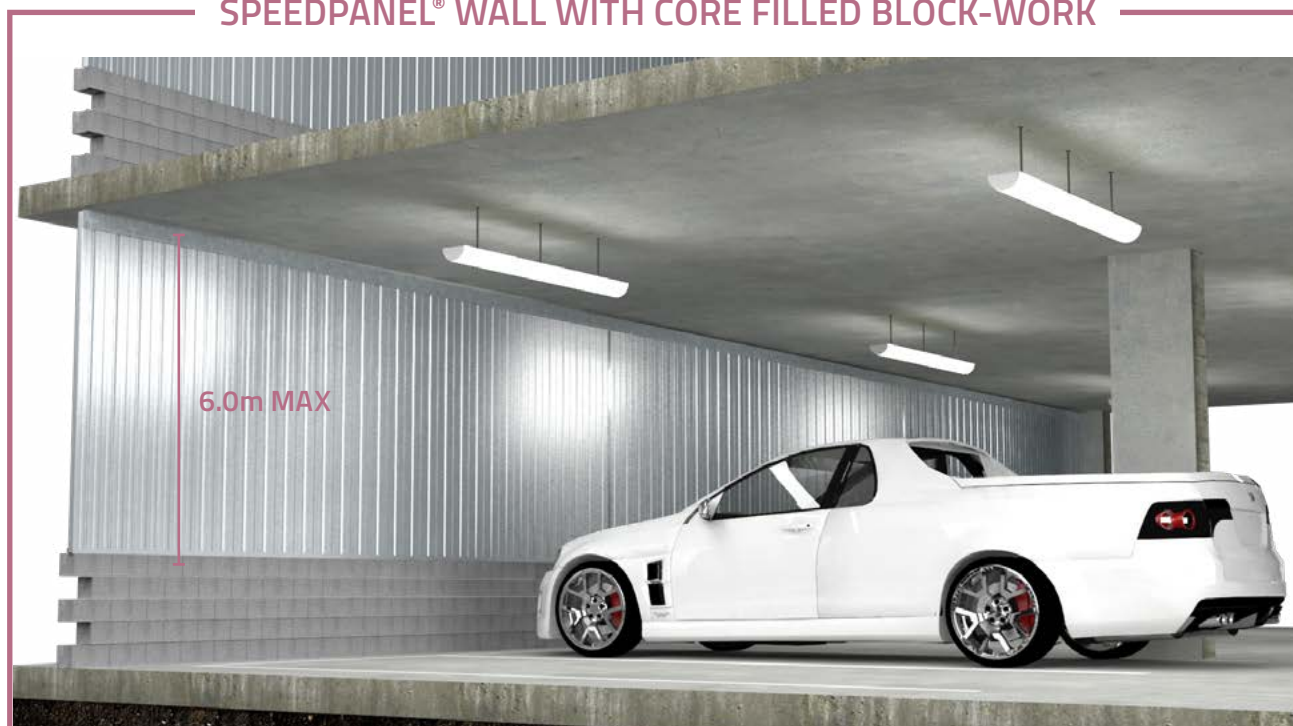

FIGURE 174
- Speedpanel® installed over 1.0m height block-work without wheel stops (Figure 174)